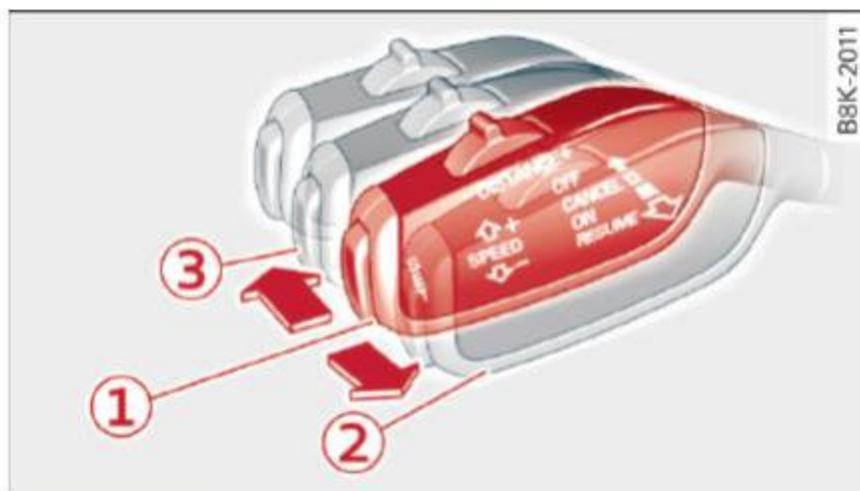

Fig. 100 Selector lever
Requirement: adaptive cruise control must be switched on ⇒ *fig. 100 (1)*.